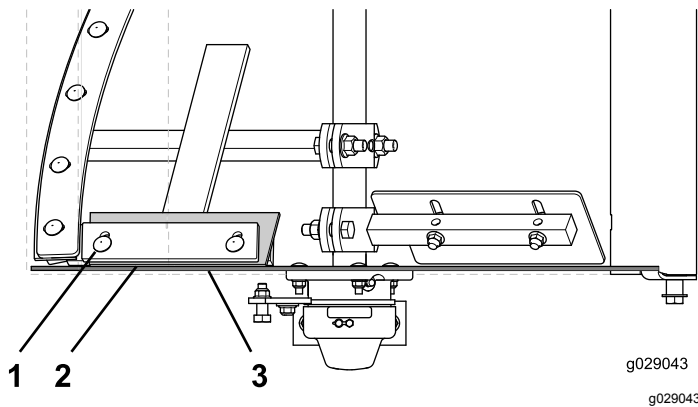

**Figure 70**
- Adjust the position of the wiper so that the wiper lightly contacts the drum across the length of the wiper (**Figure 70**).